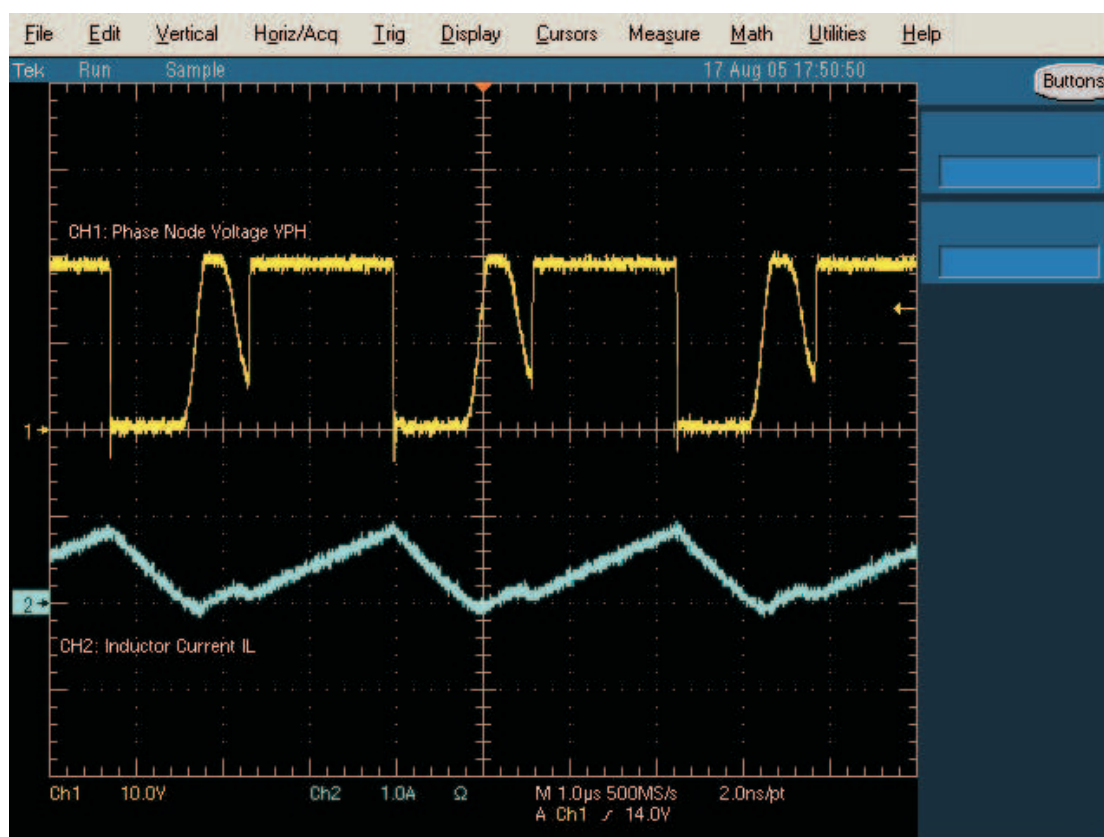

Figure 7. The Waveforms at $I_{bat} = 300 \text{ mA}$
- b. Observe \rightarrow The inductor current waveform looks like that shown in Figure 7. The inductor current does not drop below 0 A .